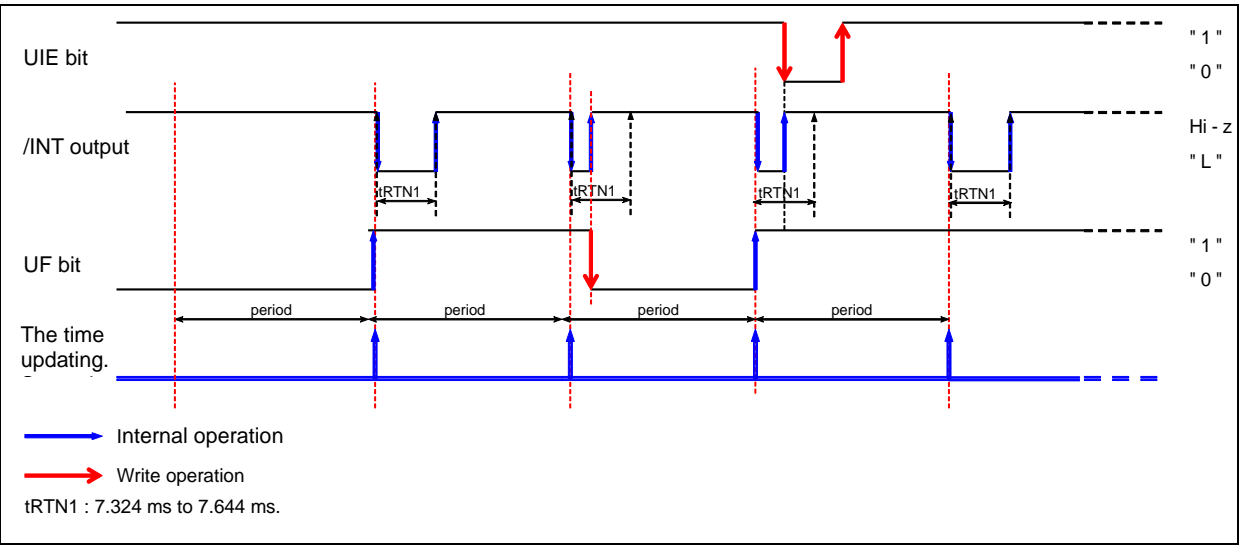

Figure 28 Time Update Interruption Timing Chart
This function can detect voltage drop of V_{DD} and switchover power supply from V_{DD} to V_{BAT} . This function circuit comprises the comparator detector "VDET" which detect the power down of the main power source " V_{DD} ", and built-in MOS switch (SW) and a diode located between the main power-source pin " V_{DD} " and the backup power supply pin " V_{BAT} ". Refer to Figure 28.